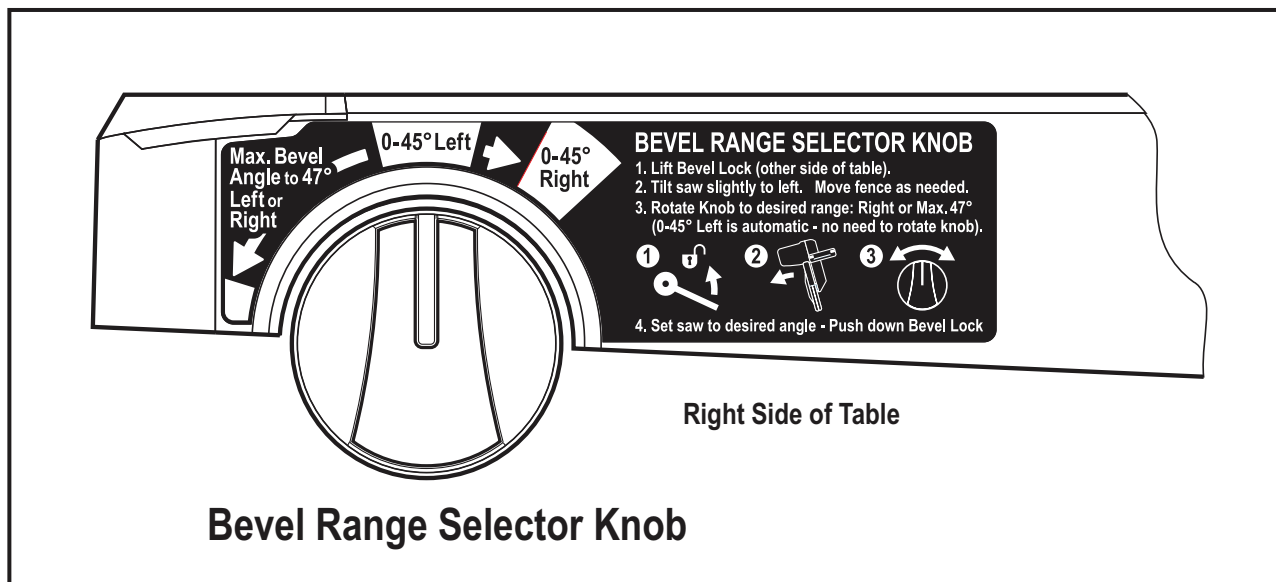

Figure 49. Bevel Range Selector Knob – Right Side of Table
Bevel range selector knob – This saw has a front control on the right side of the table arm. This is called the bevel range selector knob (item 41 – page 9). It is linked to stops and locking mechanisms in the rear which control the tool's ability to quickly and accurately be positioned to make bevel cuts. There are positive stops at the important 45° left, 0° (vertical), and 45° right angles (see Figure 49).